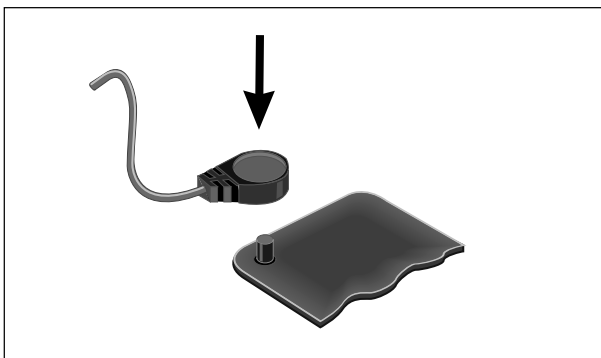

Figure 4-6. Connecting the lead
- Press the connector of the lead on to the electrode contact pin until you hear it click into place (Figure 4-6).